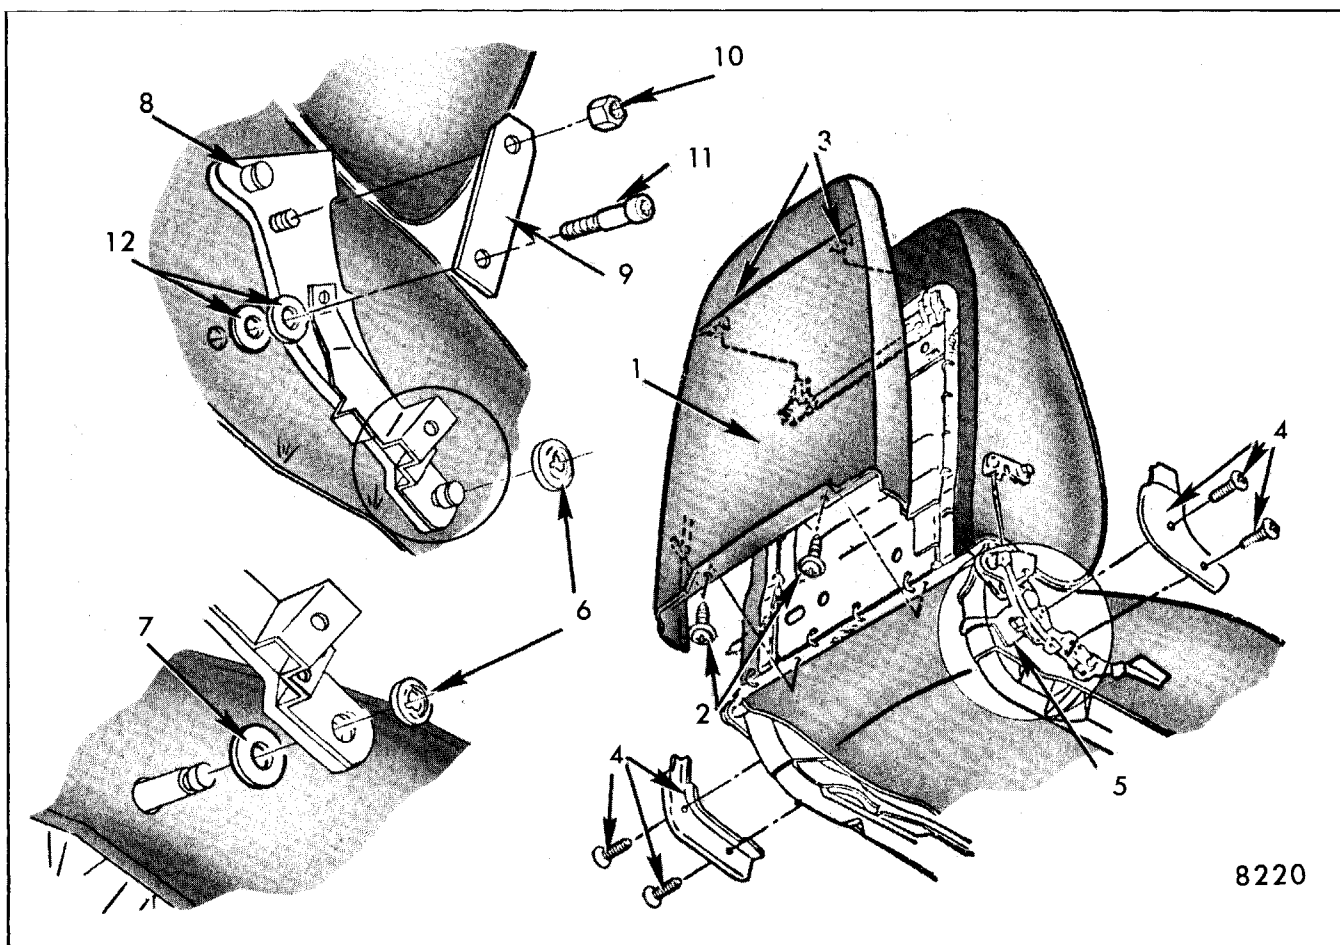
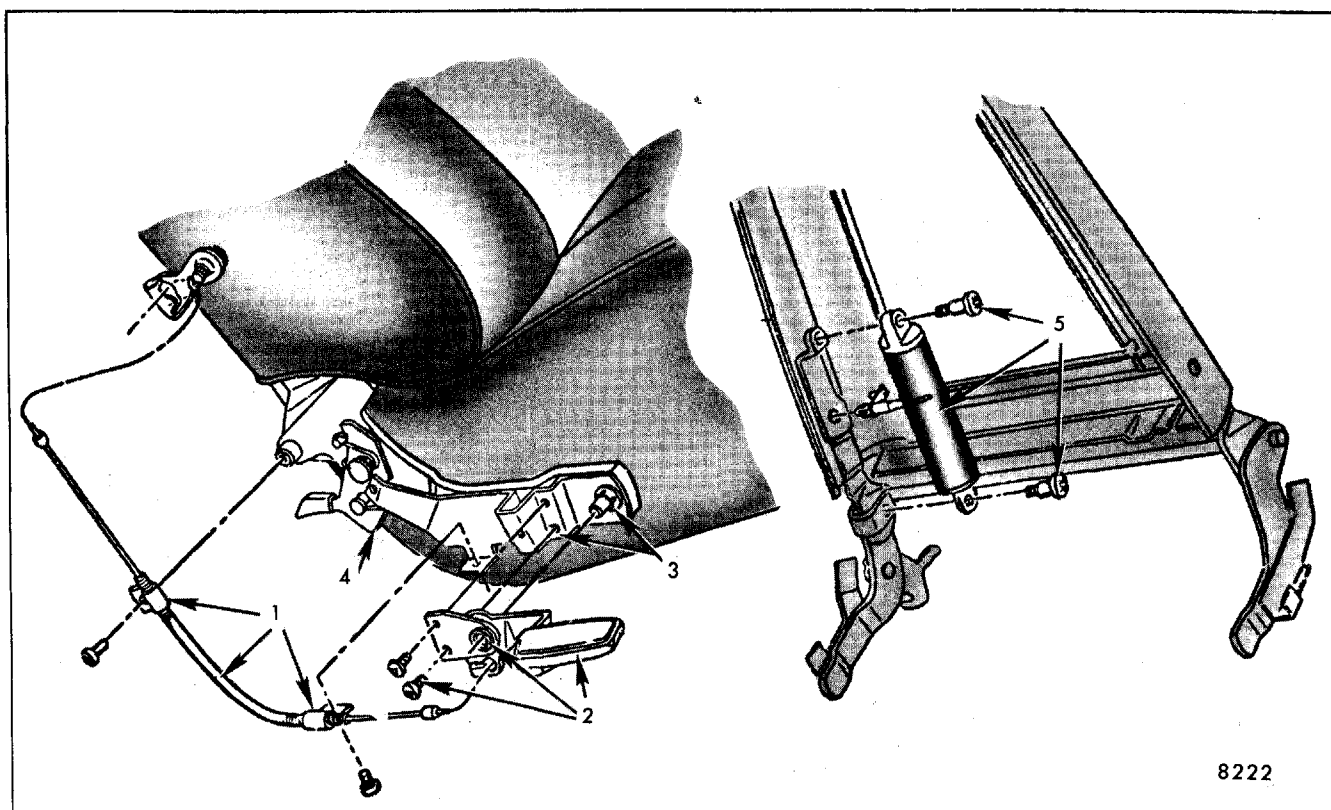

Fig. 9-79-Bucket Seat Back - X Style Passenger Seat
Fig. 9-80-Bucket Seat Back Reclining Actuator Assembly and Remote Control - X Style Passenger Seat
Bucket Seat Back Panels - Removal and Installation (Refer to Fig. 9-79)
2. Remove seat side lower panel as previously described (see Fig. 9-79).
3. Remove reclining control handle and cable attaching screws (Fig. 9-80) and detach handle from hinge pin.
4. Remove seat back hinge arm retainer (Fig. 9-80) on both sides of seat.
1. To remove reclining actuator control handle, remove seat back upper and lower panels (Fig. 9-79). Remove reclining control handle attaching screws (Fig. 9-80), disengage handle from control cable and remove handle.
2. To remove remote control cable, remove seat back upper and lower panels (Fig. 9-79); then
remove cable upper support screw and disengage remote cable from reclining actuator arm (Fig. 9- 80). Remove remote cable lower support, disengage cable from control handle (Fig. 9-80) and remove cable from seat.